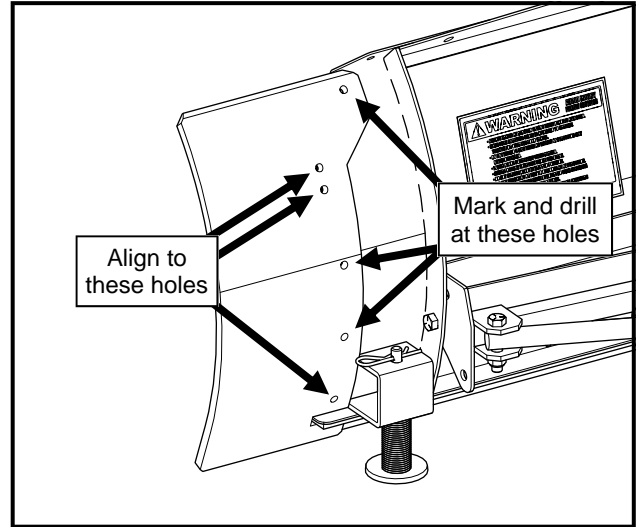

Figure 1 - Drill Holes in Moldboard
- Per figure 1, align the extension wing on the back side of the moldboard, to the hole for the cutting edge and the two holes at the upper corner of the moldboard.